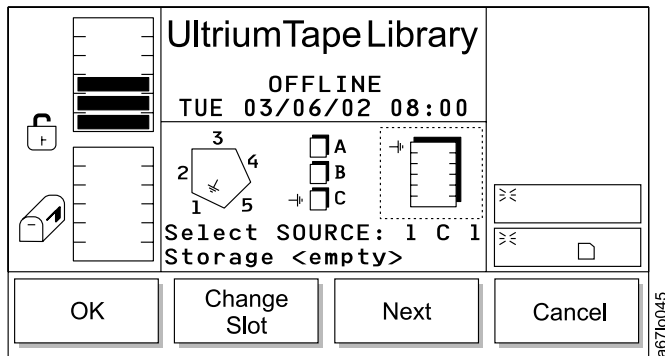

Figure 112. Change Slot Dialog
- If **Next** is selected, the current source parameter changes from magazine to slot and the Change Slot Dialog displays (see Figure 112 on page 108).